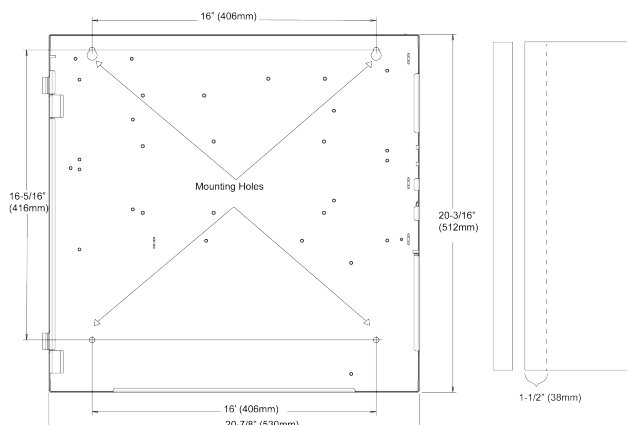

Fig 3: Back Box Installation dimensions and Semi-Flush Mounting (Right)
- To install the panel, see Figure 3: Back Box Installation dimensions and Semi-Flush Mounting (Right) on page 7 for the dimensions and use the holes in the back box to secure it to the wall.